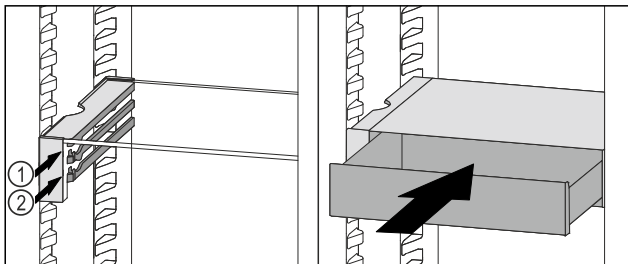

Fig. 123
- ▶ Place the VarioSafe drawer behind the stoppers on desired rib Fig. 123 (1) or Fig. 123 (2).